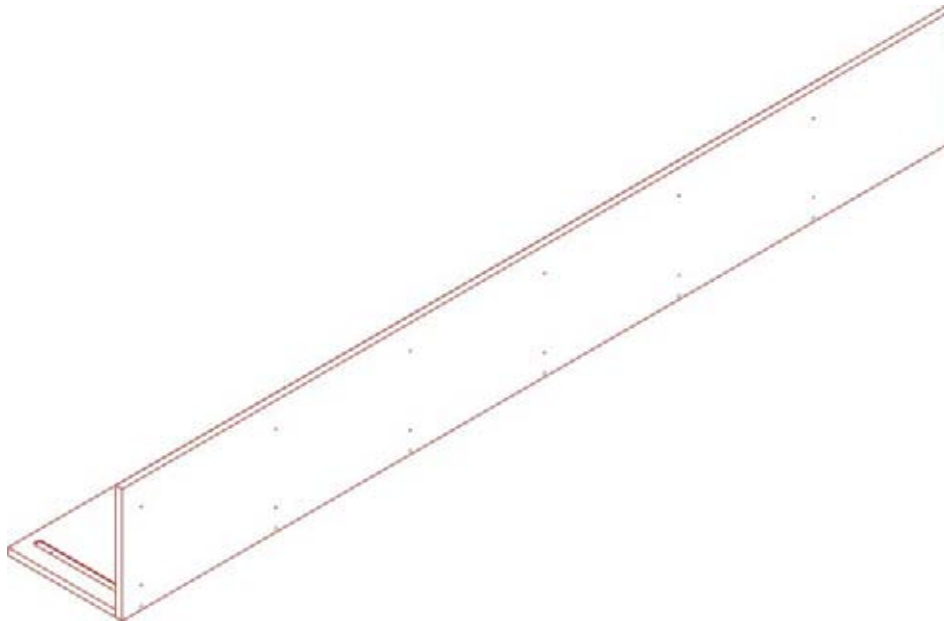

Figure 2
3. Find the pre-drilled screw holes on the seam of the outside face of panel A (where panel A and panel B are going to adjoin). Use a 9/64" drill bit to pre-drill screw holes into panel B by using the existing screw holes in panel A as guides (**Figure 2**).